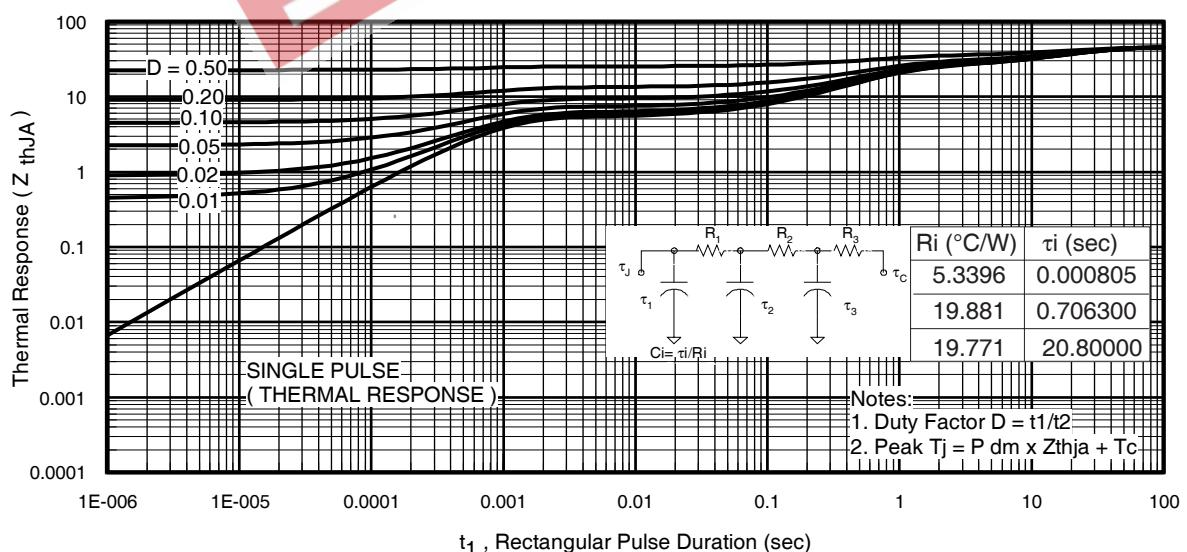
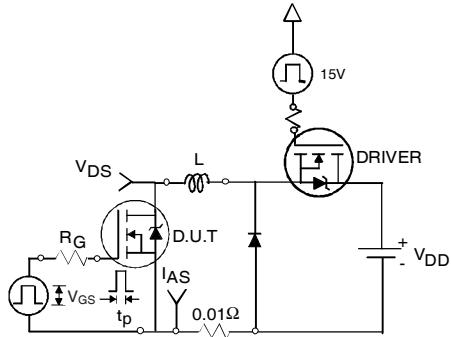

Fig 11. Maximum Effective Transient Thermal Impedance, Junction-to-Ambient
Fig 12a. Unclamped Inductive Test Circuit
- ① Repetitive rating; pulse width limited by max. junction temperature. (See fig. 11).
- ② Limited by $T_{J\max}$, starting $T_J = 25^\circ\text{C}$, $L = 4.8\text{mH}$ $R_G = 25\Omega$, $I_{AS} = 3.0\text{A}$, $V_{GS} = 10V$. Part not recommended for use above this value.
- ③ Pulse width $\leq 1.0\text{ms}$; duty cycle $\leq 2\%$.
- ④ $C_{oss\ eff.}$ is a fixed capacitance that gives the same charging time as C_{oss} while V_{DS} is rising from 0 to 80% V_{DSS} .
- ⑤ Limited by $T_{J\max}$, see Fig.12a, 12b, 15, 16 for typical repetitive avalanche performance.
- ⑥ This value determined from sample failure population. 100% tested to this value in production.
- ⑦ When mounted on 1 inch square copper board.
- ⑧ When mounted on FR-4 board using minimum recommended footprint.
3. Equation below based on circuit and waveforms shown in Figures 12a, 12b.
$Z_{\text{thJC}}(D, t_{\text{av}})$ = Transient thermal resistance, see figure 11)